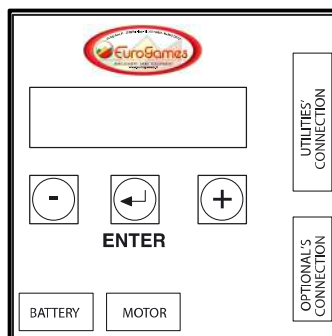

Fig. 12
2. Setup the control Timer Box to enable the magnetic band sensor. (Fig.12).